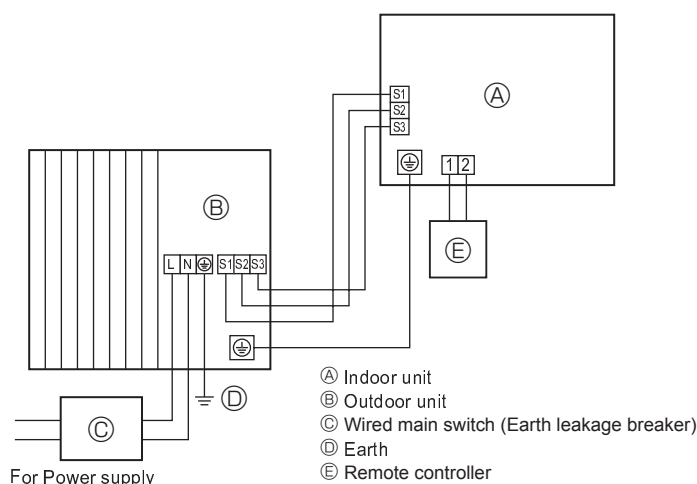
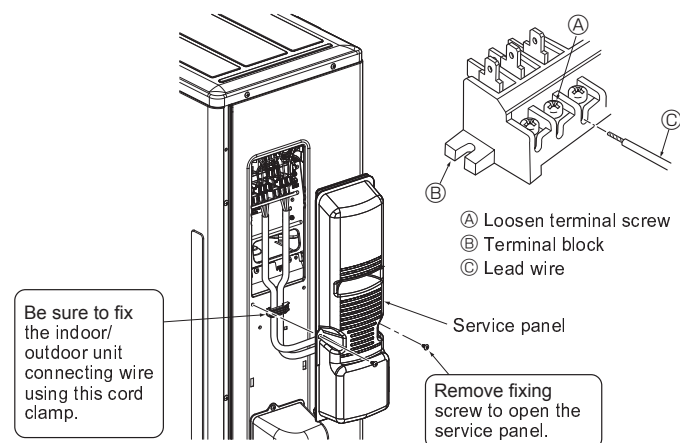
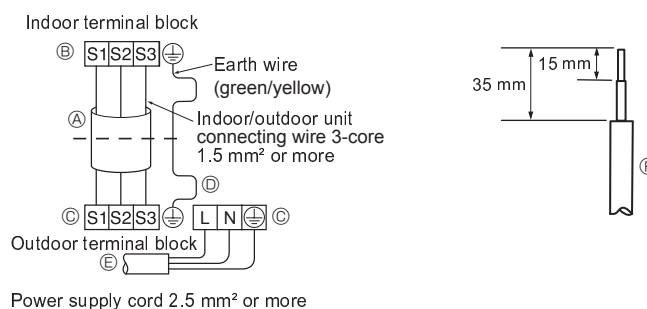

Fig. 6-1
Fig. 6-3
Fig. 6-2
### 6.1. Outdoor unit (Fig. 6-1, Fig. 6-2, Fig. 6-3)
- ① Remove the service panel.
- ② Wire the cables referring to the Fig. 6-1, Fig. 6-2 and the Fig. 6-3.
- Perform wiring as shown in the diagram to the lower left. (Procure the cable locally) (Fig. 6-2)